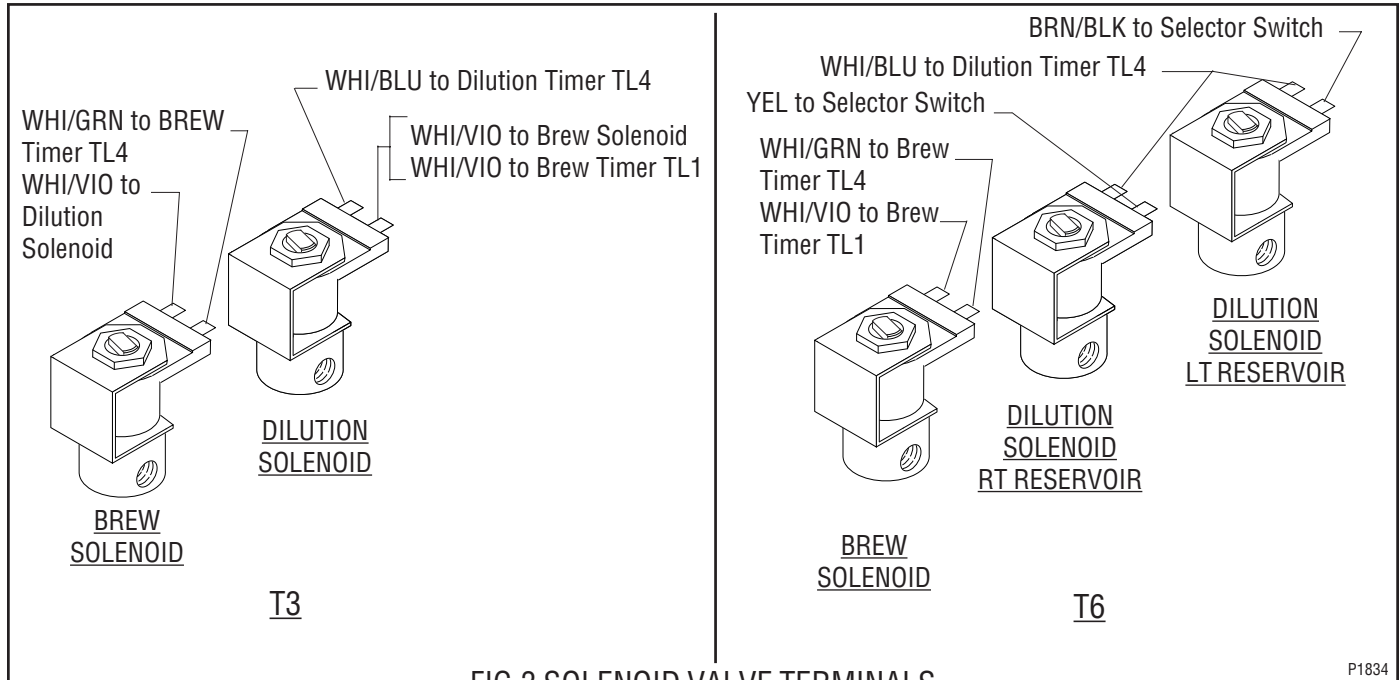

FIG.3 SOLENOID VALVE TERMINALS
10. Refer to the Fig. 3 when reconnecting the wires.